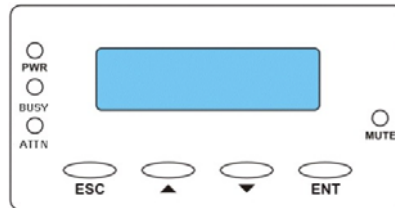

Figure 4-3: LCD Keypad Panel
The LCD keypad (as shown in **Figure 4-3**) consists of five (5) buttons, three (3) LEDs, and a 16 characters x 2 rows LCD screen that provides access to firmware-embedded utility. Press the **ENT** button for two seconds on the initial screen to enter the main menu. Press the **ESC** button to clear the current event.